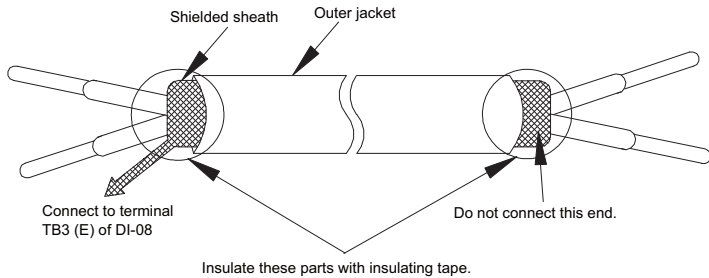

Fig. 3 Shielded Wire End Management
- For the control signal wires, use shielded wires and manage their ends as shown in Fig. 3 to prevent any malfunction due to noise. Total wiring length must be 50 m or less.
- For VS-616G3/H3 and VS-616G5 series Inverters, connect the FG cable of the DI-08 to the ground connecting terminal (12).